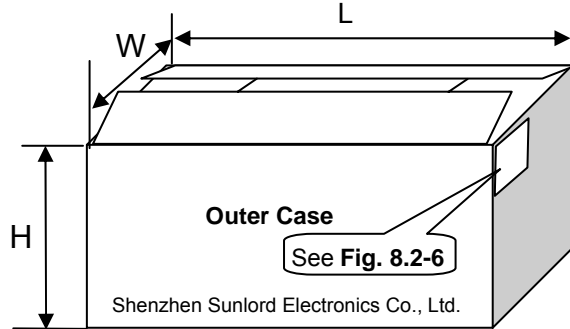

Fig. 8.2-5
①	Outer Case- 1	40	20	20
②	Outer Case- 2	40	20	40
3. Marking on outer case (see Fig.8.2-5~6):